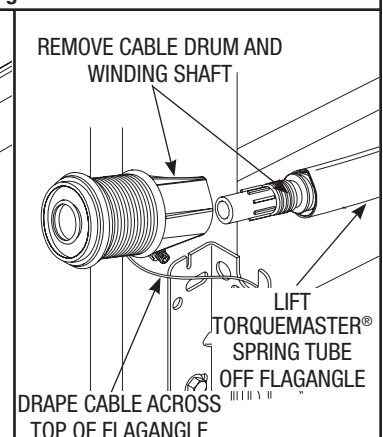

Fig. 9
Step 9: Lift the right hand side of the TorqueMaster® Spring Tube and slide the cable drum off. Realign the groove in the winding shaft with the round notch in the flagangle and drape the counterbalance cable with drum over the flagangle. Lift the left hand side of the TorqueMaster® Spring Tube and slide the cable drum and winding shaft off (Fig. 9). Drape the counterbalance cable with drum over the flagangle. Lift the TorqueMaster® spring assembly off the flagangles and out of the doorway. Unhook the counterbalance cables from the bottom brackets and remove all parts from the work area.